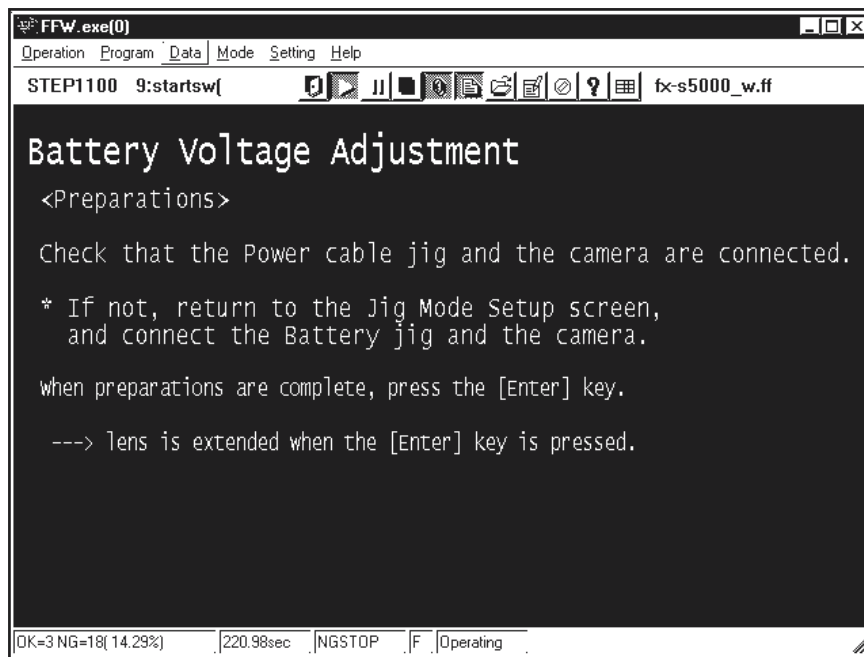

Fig.23
---> The **[Battery Voltage Preparation Screen (Fig.23)]** appears.